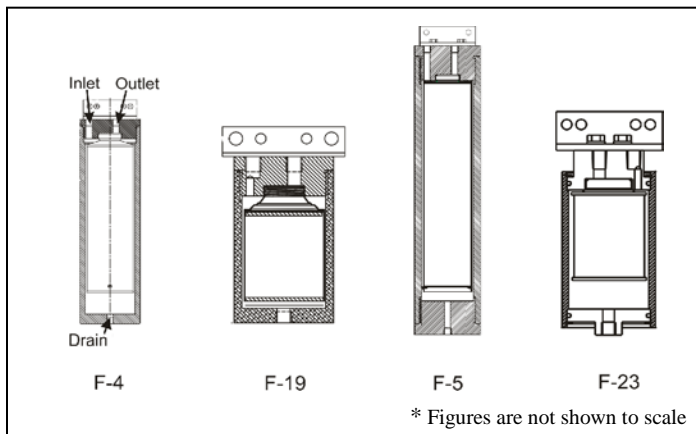

Figure 1
- 1.2.1 Plug or install a valve in the drain port on the bottom of the device (see Figure 1).